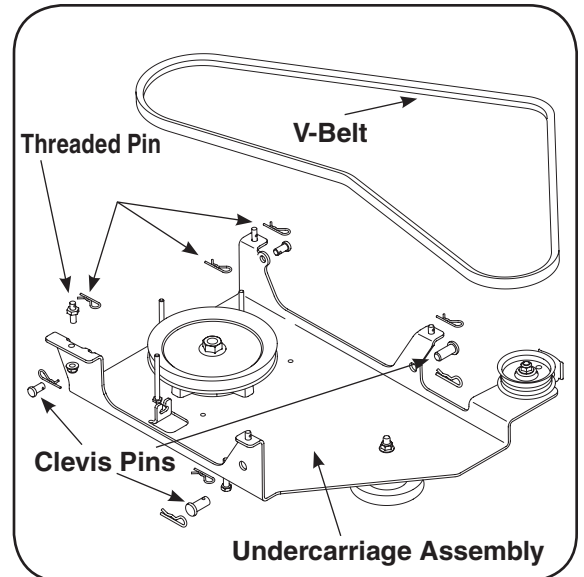

Figure 18
1. Remove the threaded pin, click pins and clevis pins from your undercarriage assembly and retain for installation later. Also, remove the v-belt (754-0371A), this belt will be replaced later with another v-belt (754-0498) included in this carton. See Figure 18.